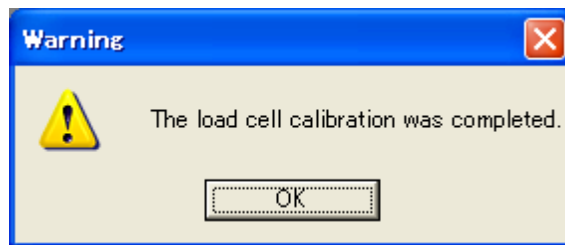

Fig. 10.19 Load Cell Calibration Completion Message
- (2) When the calibration is complete, the message "The load cell calibration was completed" (Fig. 10.19) appears.